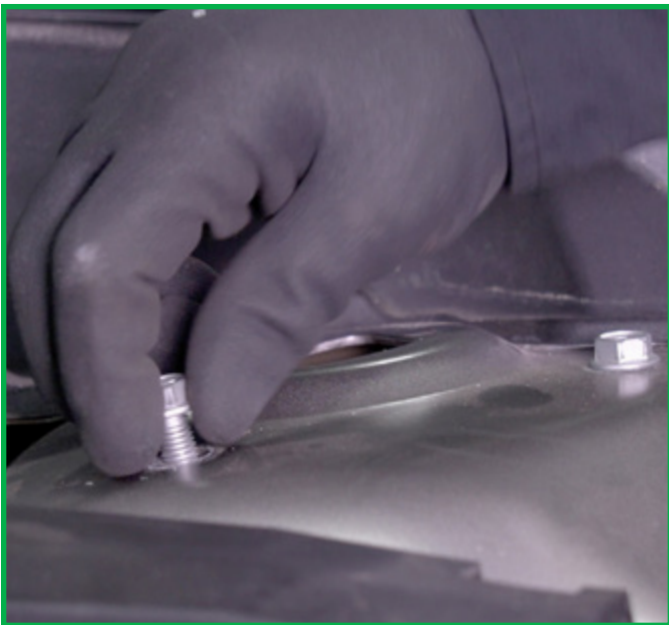

FIGURE 20
4. Install the three (3) provided top mount bolts under the hood. Tighten to manufacturer's specifications. (Figures 20, 21)